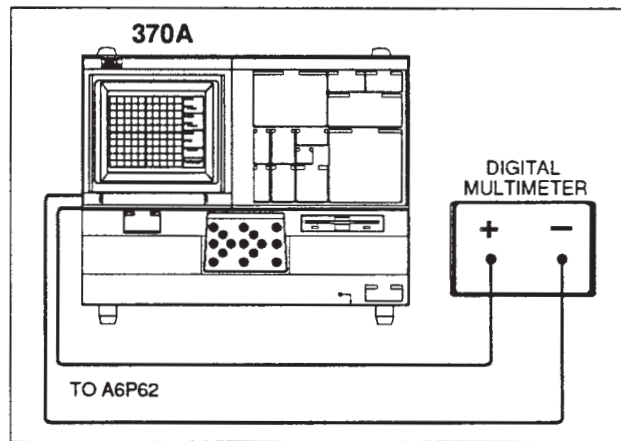

Figure 4-12. Adjusting for Collector Supply Amplifier Offset.
- d. Connect the Digital Multimeter test leads to pin 1 and pin 3 of P62 as shown in Figure 4-12. (These are the COLLECT-OUT and ground pins.)